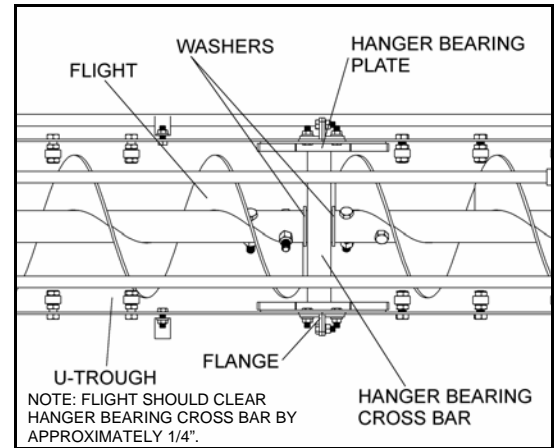

Figure 4.15
7. Turn the flight over by hand to make sure it clears hanger bearing cross bar by approximately 1/4" (Figure 4.15).